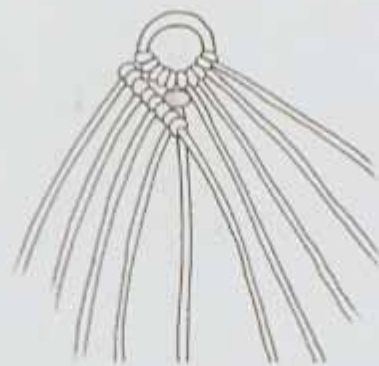

Fig. 2
5. **Row 2** - Use Cd #1 as your **AC** (Anchor Cord) and bring it diagonally towards the center. Make a row of 4 **DHHs** (Double Half Hitches) with Cds #2 - 5 (see Figure 2).